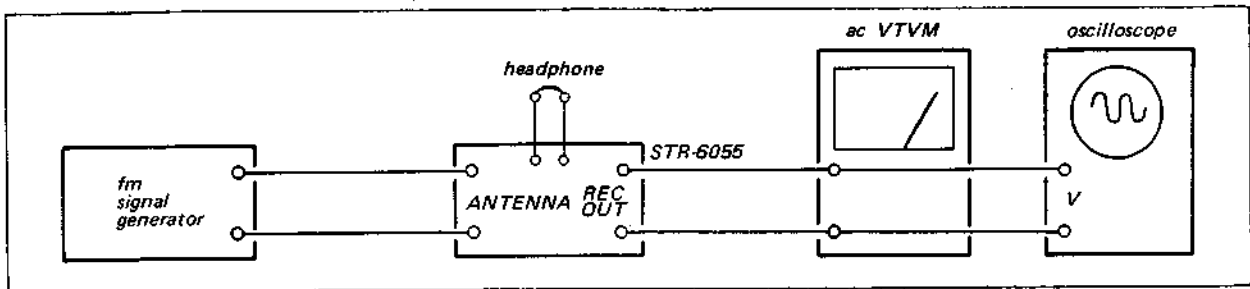

Fig. 3-2. Fm i-f, muting and front-end alignment test setup
4. Connect the signal-generator output to the fm antenna terminal as shown in Fig. 3-2.
1. With the equipment connected as shown in Fig. 3-2, set the signal-generator controls as follows:
1. With the equipment connected as shown in Fig. 3-2, set the receiver controls as follows:
- With the equipment connected as shown in Fig. 3-2, set the receiver controls as follows:
2. Connect the equipment as shown in Fig. 3-2.